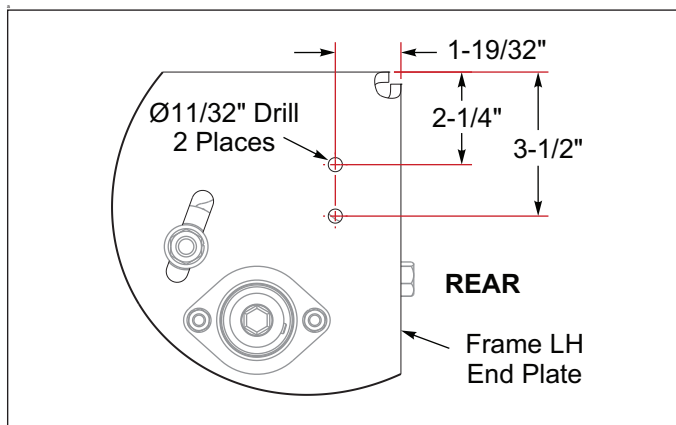

Figure 2-12: Mounting Switch Bracket
6. Drill two 11/32" diameter holes in the Frame LH End Plate to mount the Switch Bracket. **See Figure 2-12.**